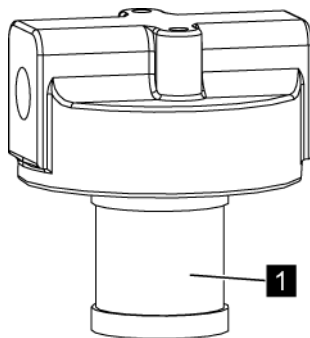

Fig. 223: Filter insert
7. ➔ Remove the filter insert (Fig. 223/1) and insert a new filter insert.